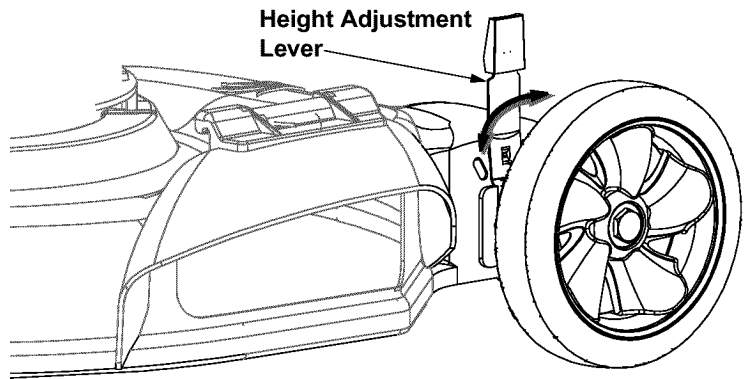

Figure 8
1. Depress the lever towards the wheel and slide the lever assembly to desired position for a change in cutting height. See Figure 8.